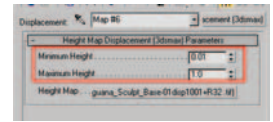

Figure 11.59 Height Map Displacement Parameters rollout with the values highlighted.
25. For the Minimum Height Value input 0.01, and for the Maximum Height Value input 1.0. Figure 11.59 shows the Height Map Displacement Parameters rollout with the values highlighted.